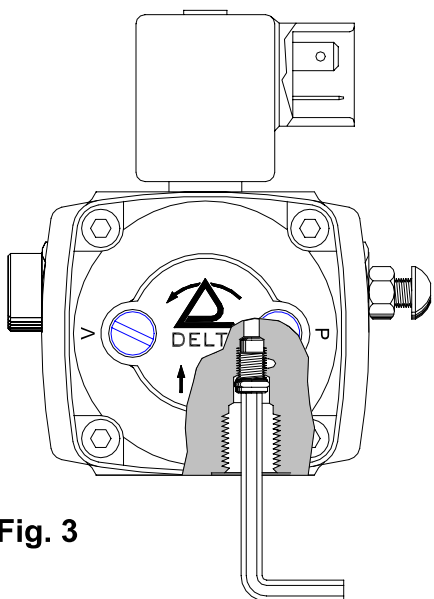

Fig. 3
- Insert and screw the by-pass plug in the return port (Fig. 3).
- Using a 4 mm Allen wrench, unscrew the by-pass plug from the return port (Fig. 3).